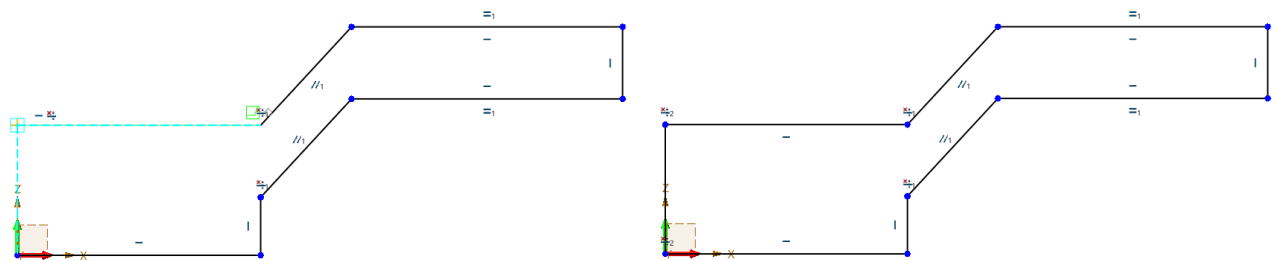

Figure 85 Finishing the Rough Profile
STEP 05 Draw the rest of the lines to get a rough profile is finished, as shown in the right side of Figure 85.